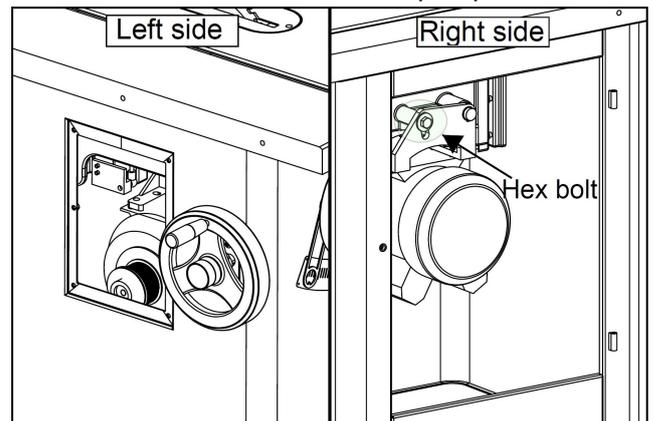

Fig25
1. Lower the blade completely, then open the motor cover (right side), remove the repair panel (left side), refer to **Fig.25**.